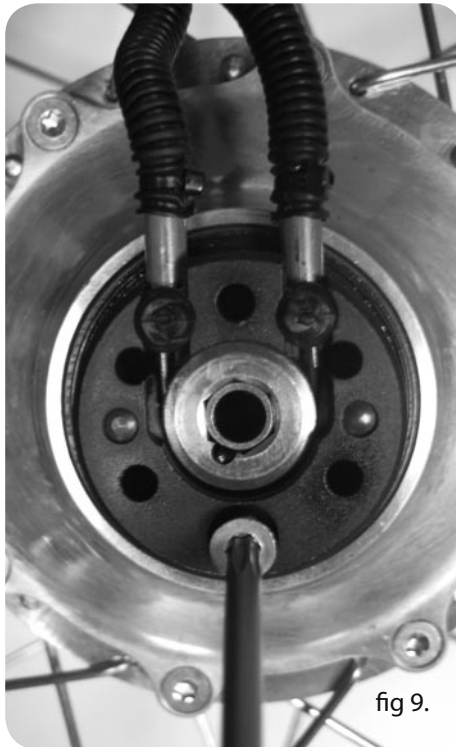

fig 9.
**10.** Install axle ring assembly fixing bolt. (see fig 9) (if applicable to your hub)